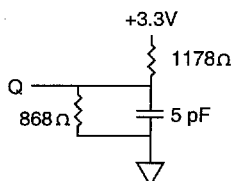

Figure 2
13. Output loading is specified with $C_L = 5pF$ as in Figure 2. These parameters are sampled.